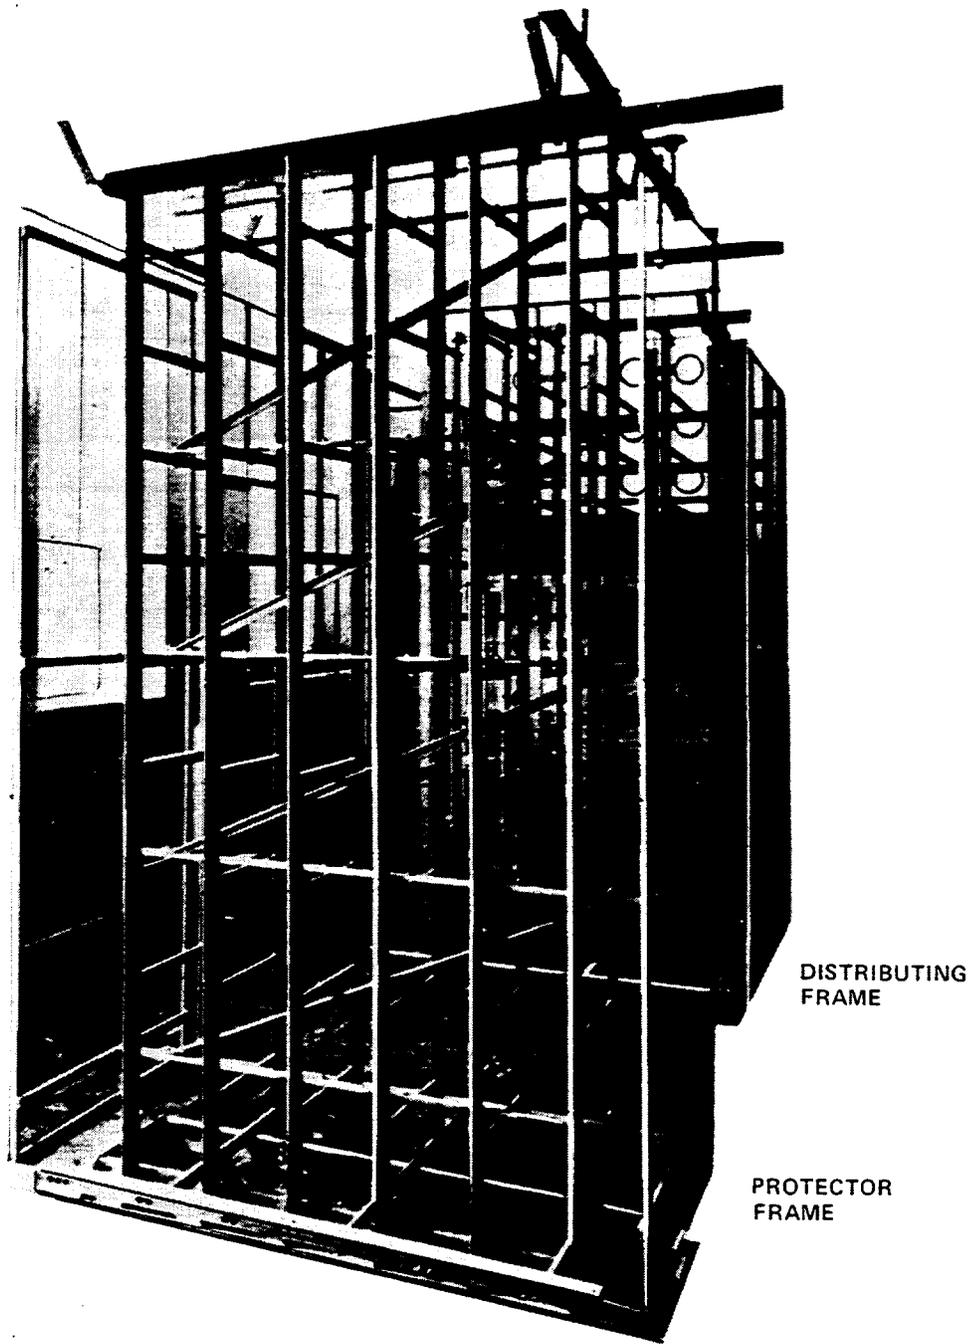

Figure 12—Low Profile Double-Sided Protector Frame
**5.13** The LPDPF (Figure 12) is used to terminate outside plant cable pairs on central office connectors for cabling to connecting blocks on the distributing frame. The LPDPF conforms to NEBS (Network Equipment Building System Standards) 8-foot height requirements.